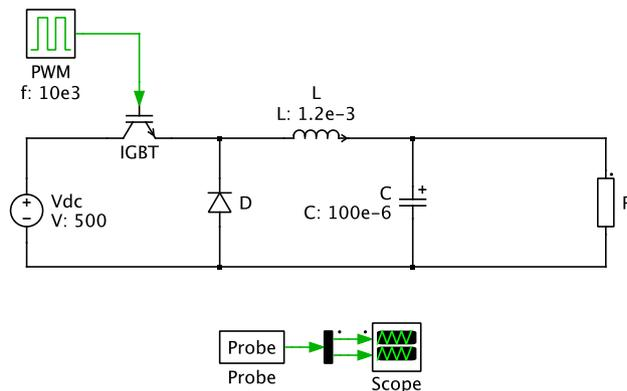

Figure 2.2: Schematic of a buck converter for PLECS WBS.
2. Set up the circuit as shown in Fig. 2.2 with the parameter values in Tab. 2.1. The resistor and duty cycle take a variable parameter value "VarR" and "D". In the initialization script the variables are set to $5\ \Omega$ and 0.5 respectively. Later in the online simulation the user should be able to change these values in a corresponding parameter field. Note that you should leave enough space between the capacitor and resistor so that a parameter field fits in between on the website.